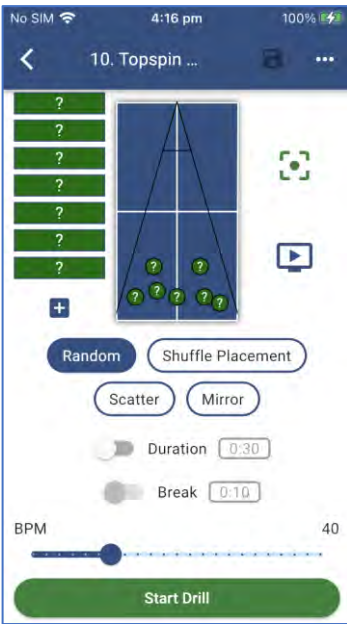

Figure 3-51
- **Random** - Plays the balls of a Drill, in a random order. When Random is selected, the Ball Selector numbers turn into question marks. (Figure 3-51)